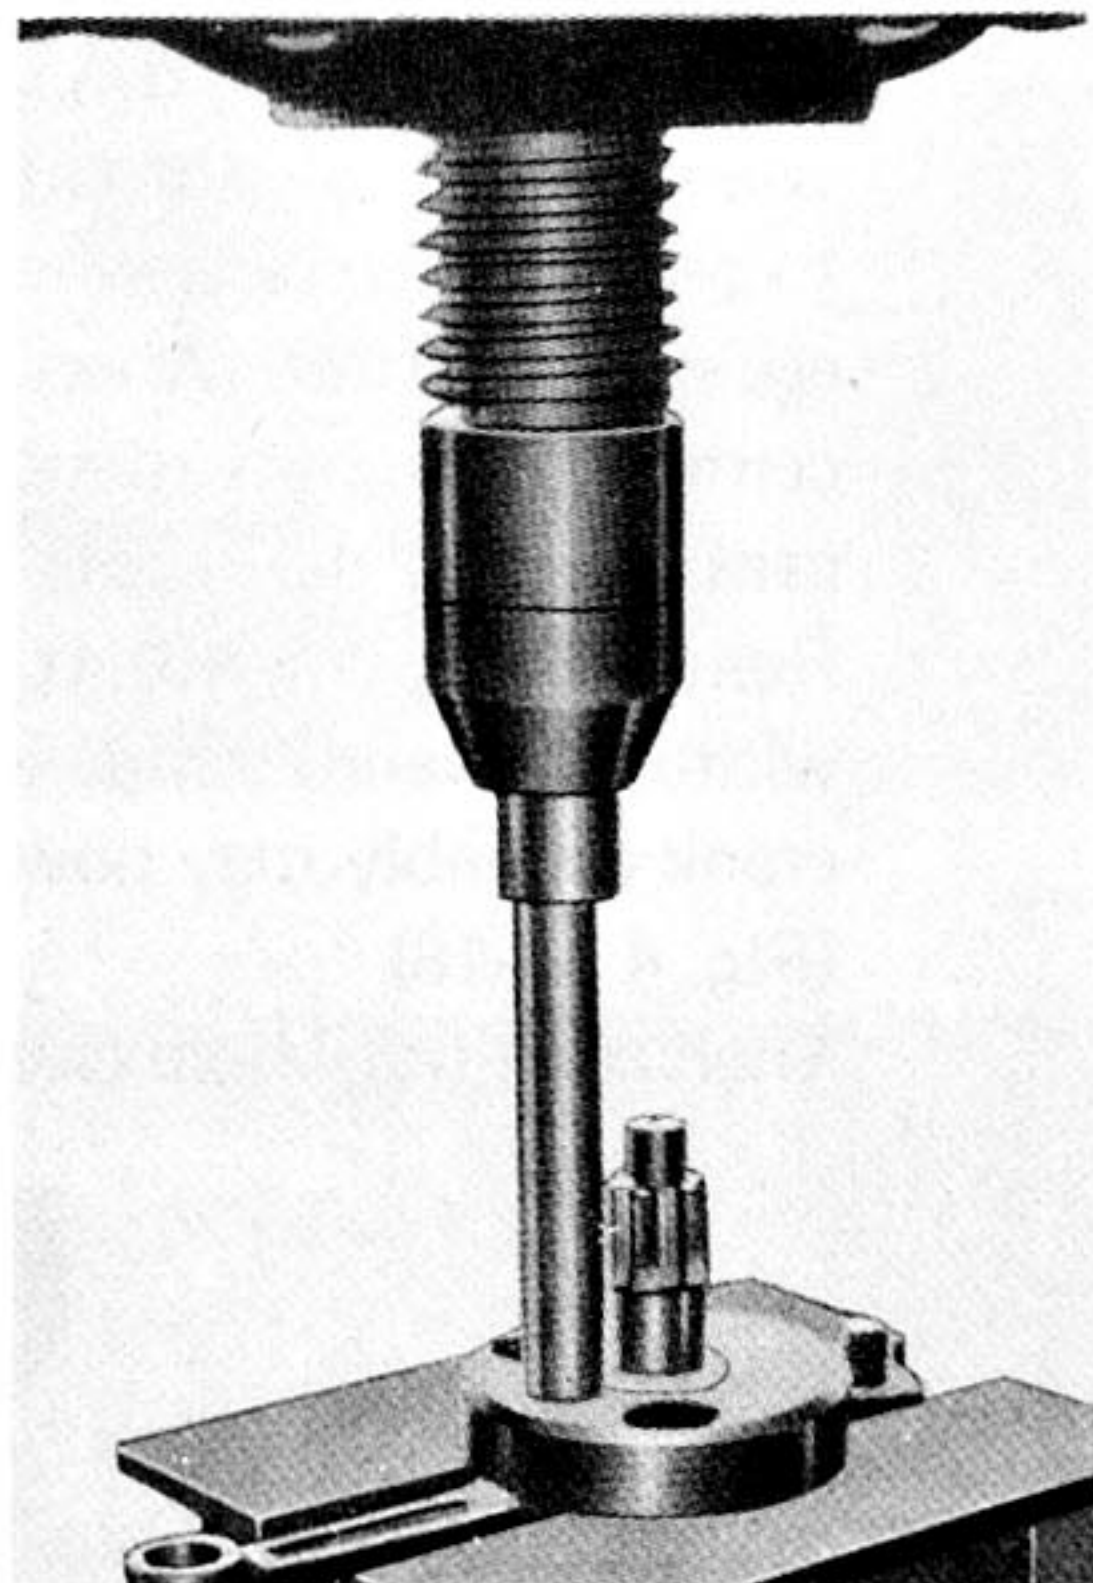
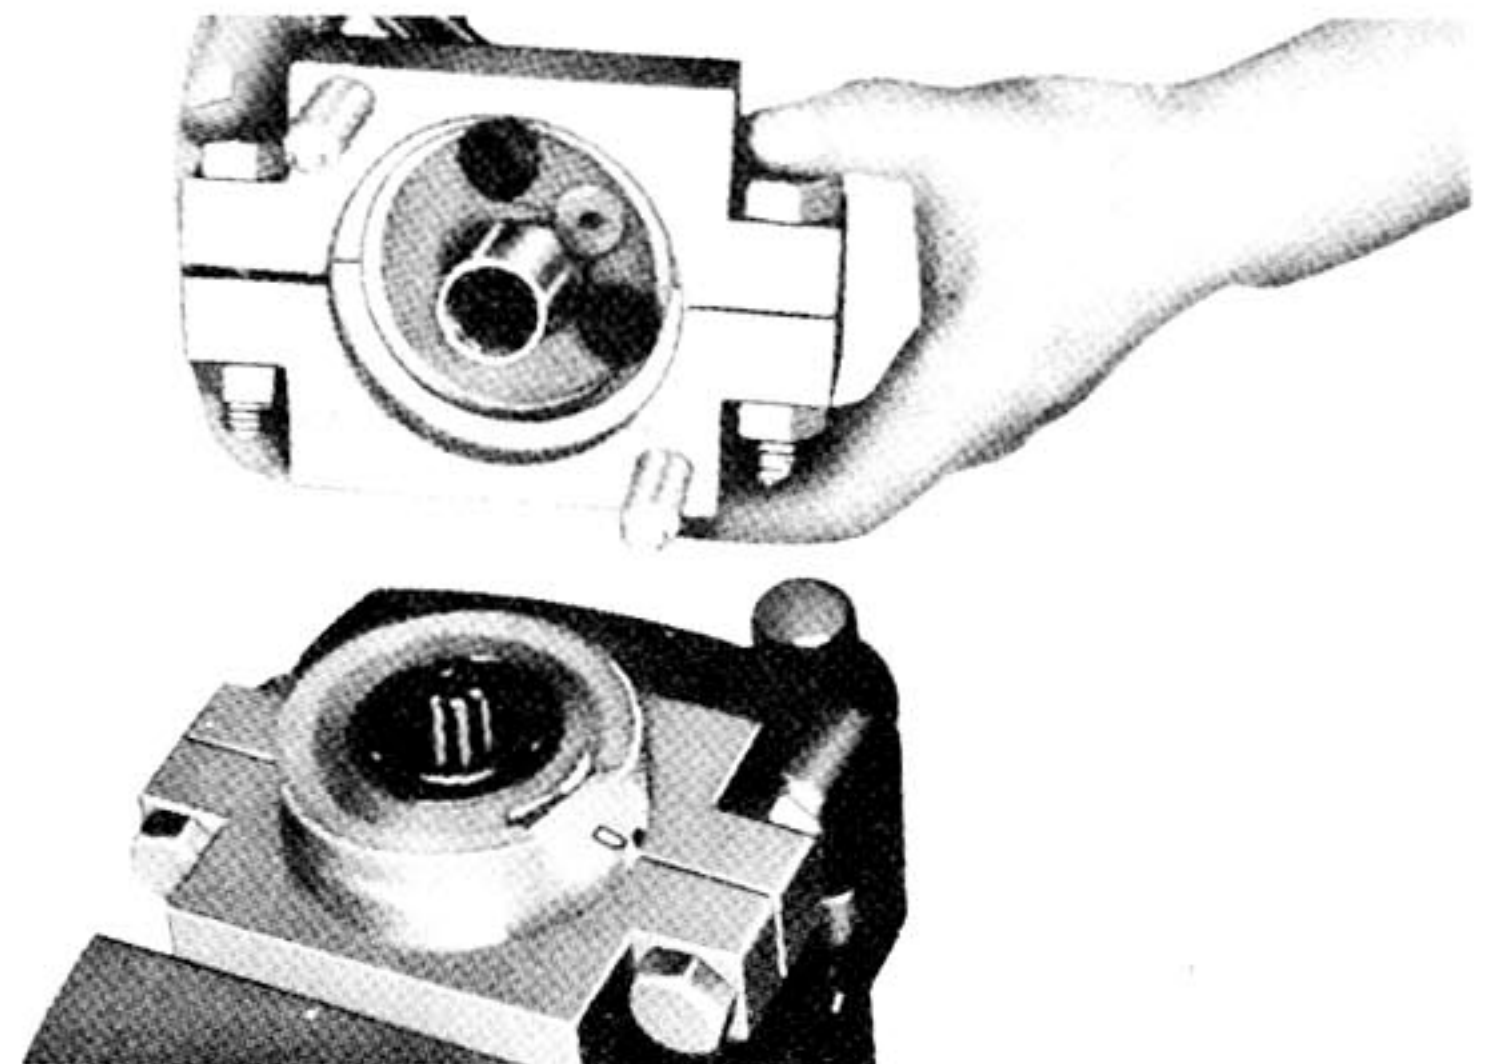

Fig. 4-17-10
Fig. 4-17-11
(6) Remove the crankshaft pin in the manner as shown in Fig. 4-17-10. (For this purpose, use the jigs a shown in Fig. 4-17-11)
(7) Next, take the remaining crank wheel with the crank pin still in it, turn the wheel over, place it on the support plates, and press out the crank pin.
(8) Repeat steps "(6)" and "(7)" to disassemble the other crank half.
To reassemble the crankshaft ass'y use a set of special jigs as shown in Fig. 4-17-11.